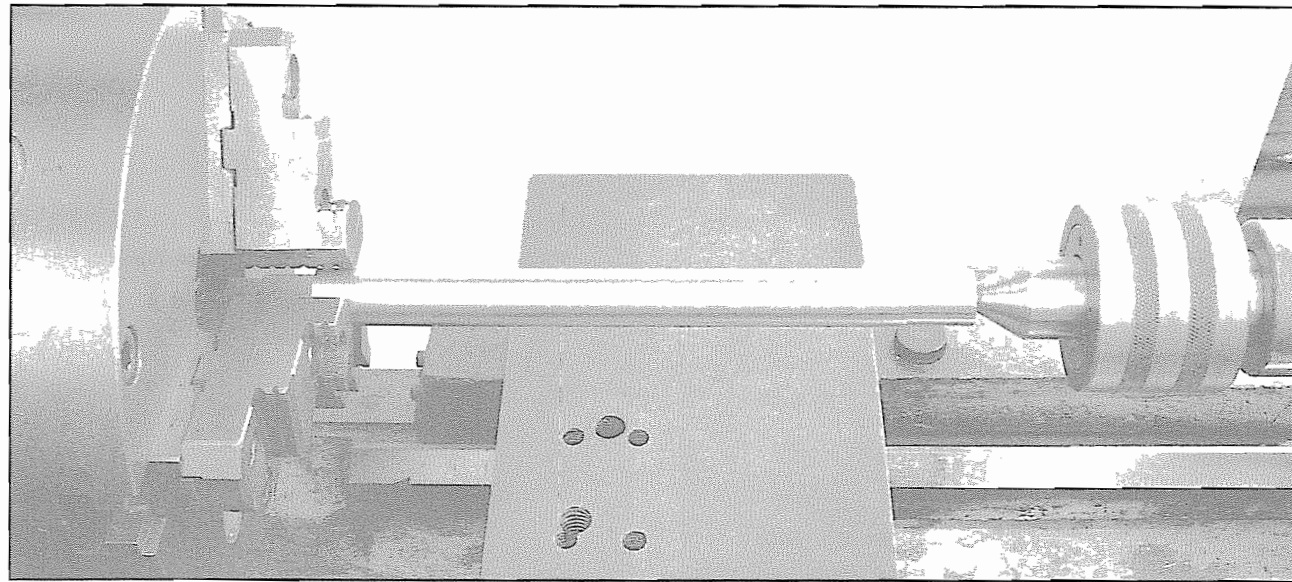

Figure 4-40. A precision reference bar is mounted firmly between the chuck and the tailstock center.
- Replace the tailstock drill chuck with a live center, and remount the reference bar *firmly* between the chuck and the live center (Figure 4-40). Use the tailstock screw to take up any slack, and lock it in place.